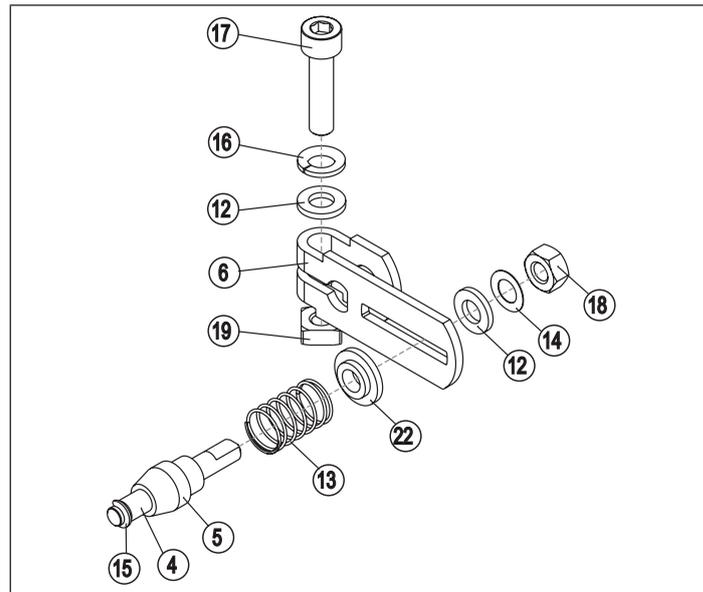

Fig. 7: Assembling the lever
- Assemble lever (if not pre-assembled) (see “Fig. 7”).